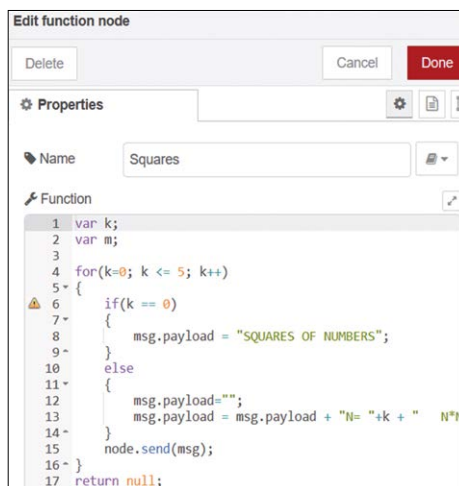

Figure 4.40 Function contents
- Create a **function** node named **Squares** and enter the following statements inside this function (Figure 4.40). The function displays the heading **SQUARES OF NUMBERS** and then calculates and displays the squares of numbers from 1 to 5: